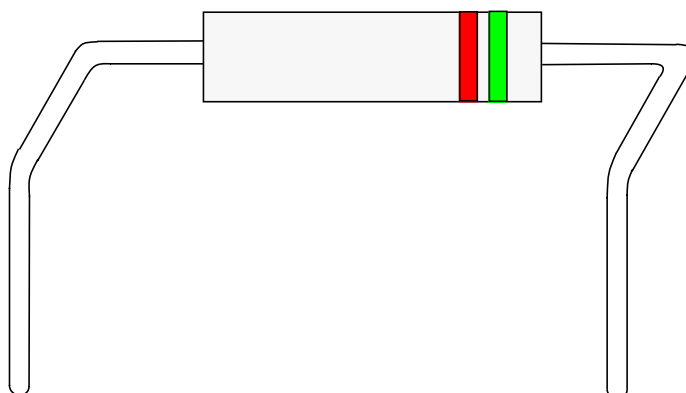

Figure 3 - Side Mounting
- 5.4.4.1 For side mounting components with axial leads, form the component leads to the configuration shown in Figure 3. Unless otherwise specified on the engineering drawing, ensure side mounting components are flush to the board within 1/32".